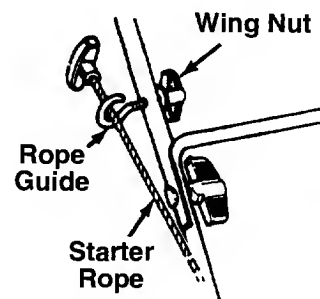

FIGURE 4.
- The rope guide is attached to the right side of upper handle. Loosen the wing nut which secures the rope guide. See figure 4.